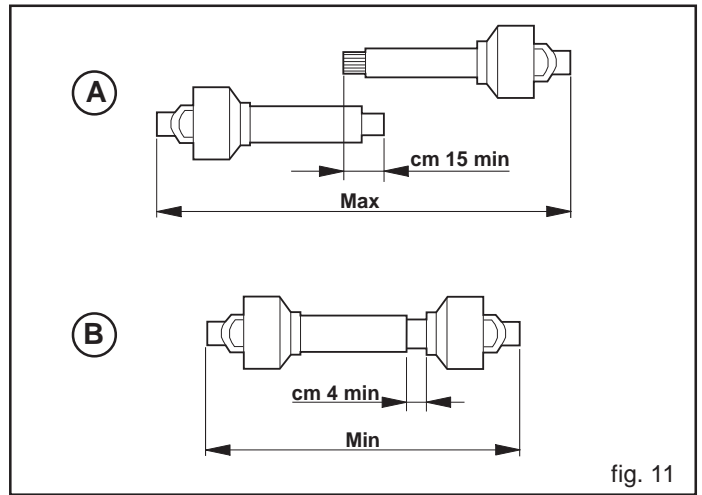

fig. 11
- When the Cardan shaft is with drawn to the end of its stroke, the two pipes should overlap by at least 15 cm (A, Fig. 11). When it is inserted all the way, the minimum admissible play is 4 cm (B, Fig. 11).